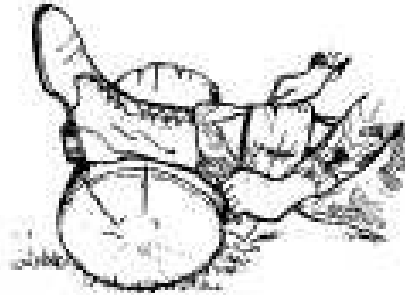
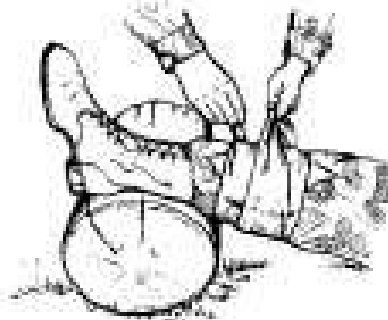

Figure 2-28. Improvised dressing over wad of padding
Figure 2-29. Ends of improvised dressing wrapped tightly around limb.
- b. Place an improvised dressing (or cravat, if available) over the wad of padding (Figure 2-28). Wrap the ends tightly around the injure limb, covering the previously placed field dressing (Figure 2-29).